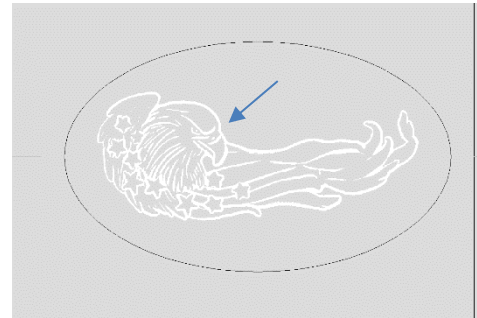

Fig. 17
18. You only want the areas of you image be white that needs additional machining (Fig. 17).